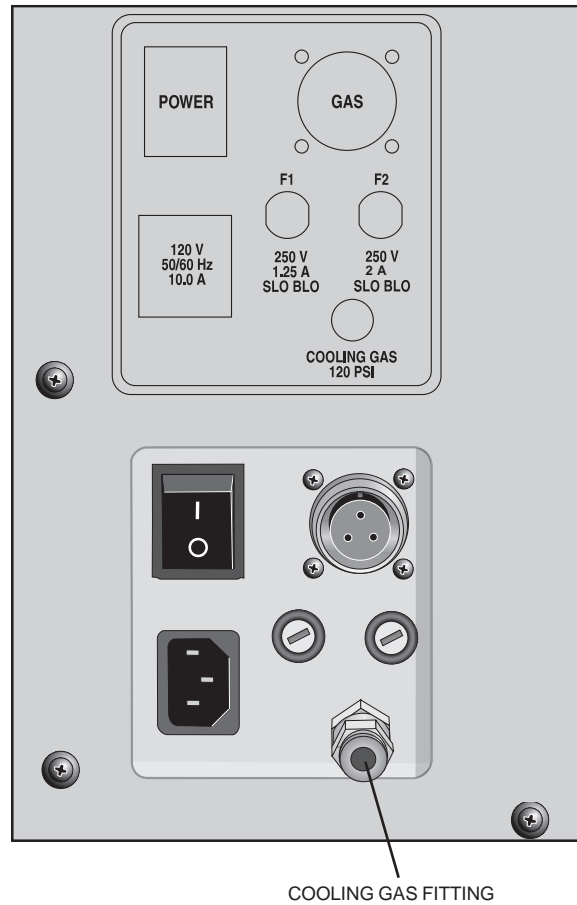

Figure 2.7
1. Locate the COOLING GAS fitting, a 6.4-mm (¼-inch) compression fitting on the left side of the 2010 CE instrument back, marked with a 120 psi maximum warning label (see Figure 2.7).